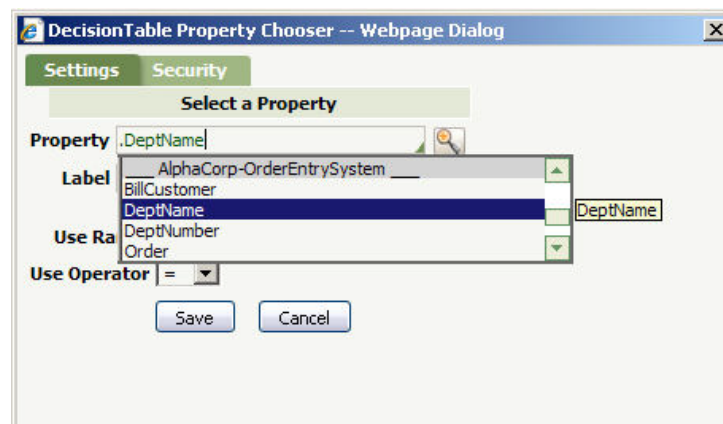
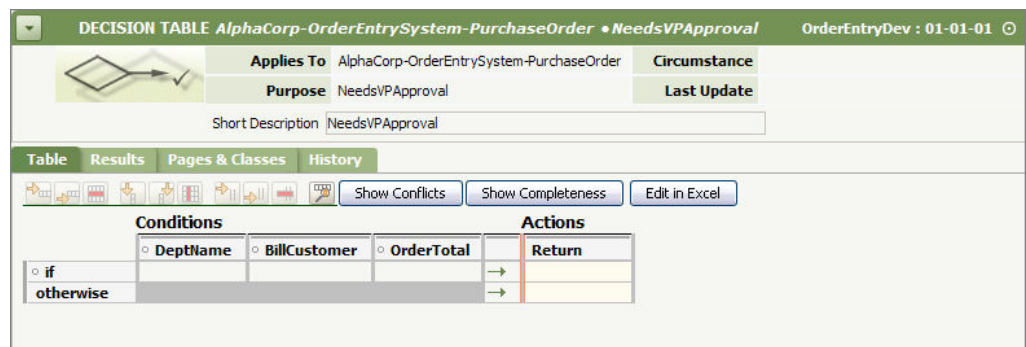

Figure 3-17. Select a Property in the Decision Table Property Chooser
Figure 3-20. Decision Table Rule – Labeling a Column
- b. Use the SmartPrompt feature to access a list of all the properties available. Scroll down until you see the DeptName property and press Enter or click the property name to select it (Figure 3-17).
4. Add the **Bill Customer** and **Order Total** properties (Figure 3-20) to the columns using the Property Chooser (Figure 3-17).